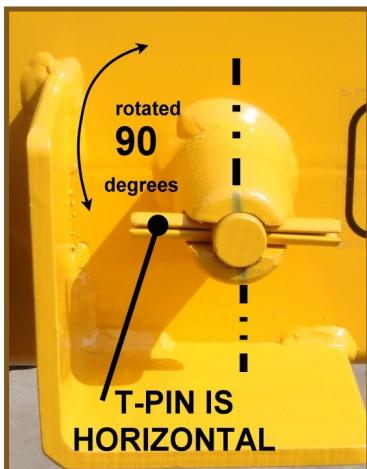

Figure 7
- Turn the T-pin 90°, from horizontal to vertical (see figures 7 & 8).
- Rotate the T-pin 90°, returning to horizontal (see figures 7 & 8).